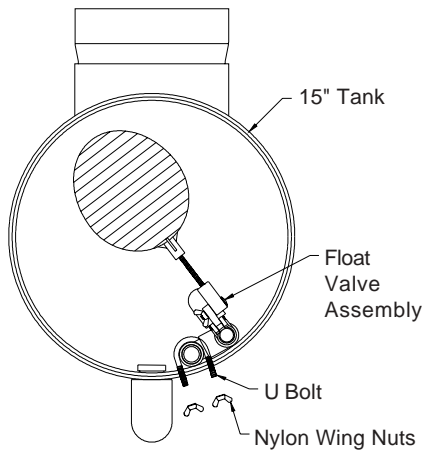

Figure 22D
- 5) Slide the float valve assembly into the tank kit tee approximately 18³/₄" for the 15" tank. Fasten in place using (2) U-bolts and (4) nylon wing nuts. **See Figures 22D & 22E.**